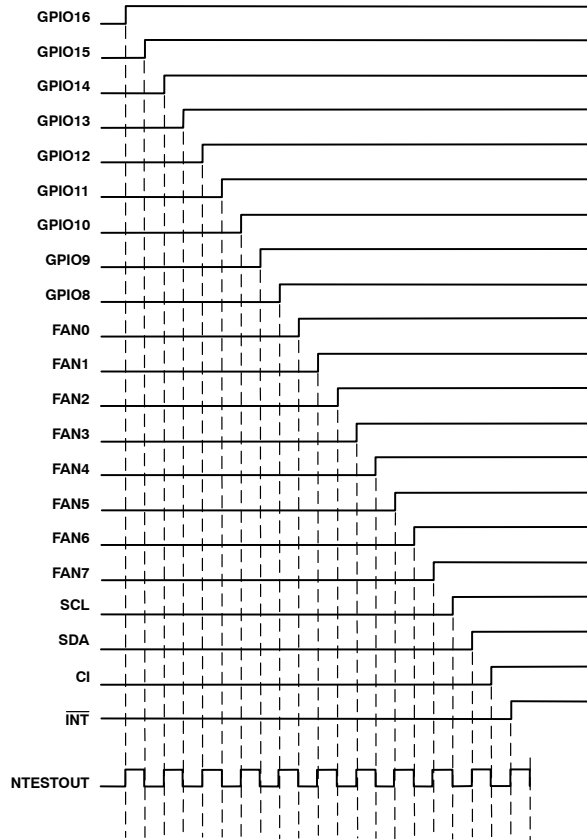

Figure 56. NAND Tree Test Taking Inputs High in Turn
1. Start with all inputs low and take them high in turn, starting with the input nearest to NTEST_OUT (GPIO16/ $\overline{\text{THERM}}$) and working back up the tree to the input furthest from NTESTOUT ($\overline{\text{INT}}$). This should give the characteristic output pattern shown in Figure 56, with NTESTOUT toggling each time an input is taken high.